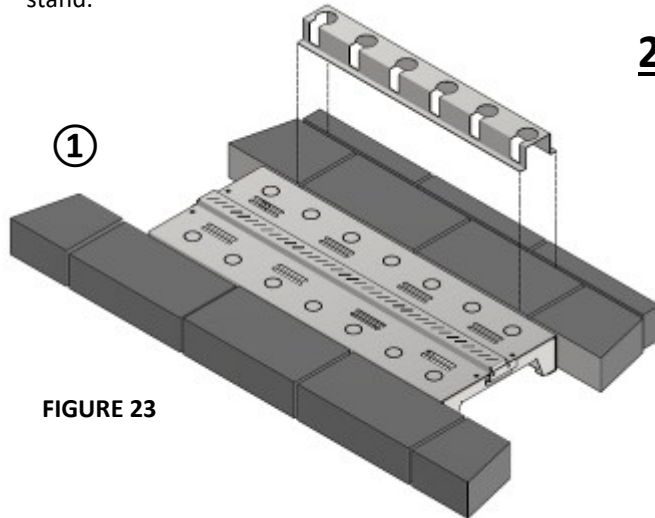
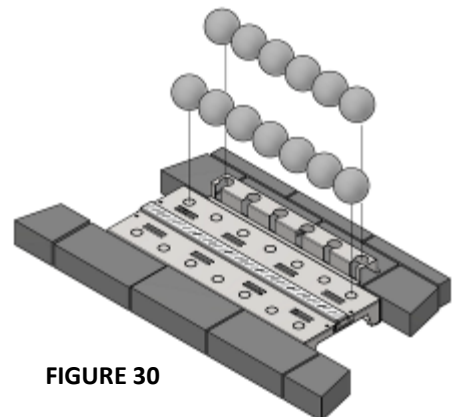

FIGURE 23
FIGURE 30
- 2-Tier and 3-Tier installations start with removing the knockouts on the burner itself and using the FIREBALL stand. Recommend removing the knockouts with pliers. Rock the knockouts back and forth until they separate from the burner. Place FIREBALL stand on top of fire brick. Stand does not rest on burner. **FIGURE 23—FIGURE 30**